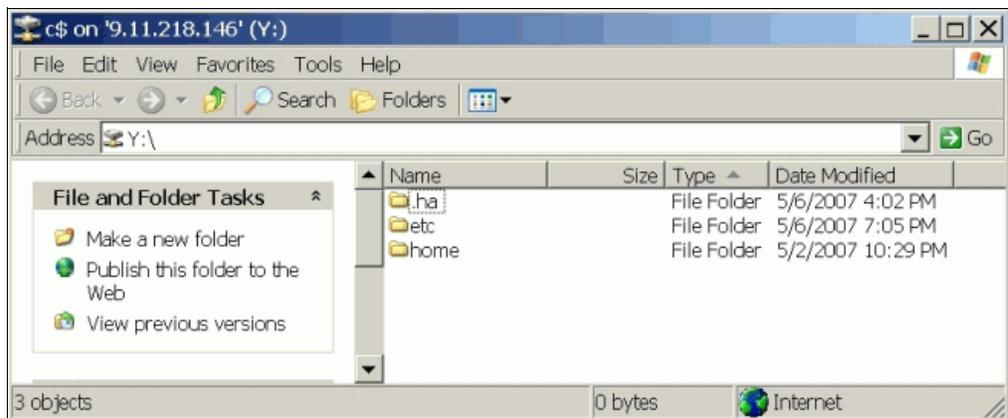

Figure A-9 Drive mapping example
- d. The drive now has been mapped. See Figure A-9.